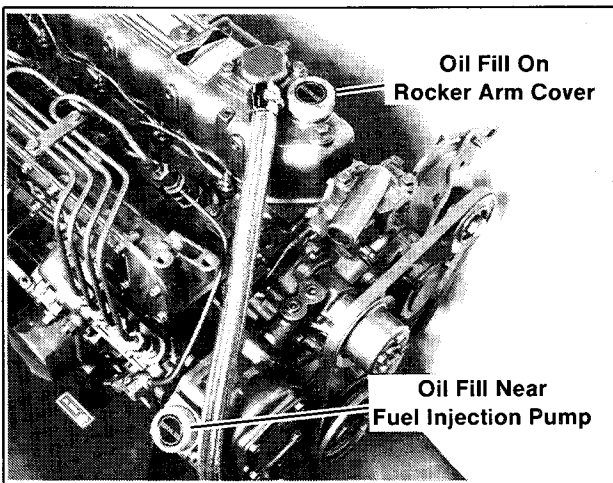

Figure 1-5b. Oil Fill Locations
2. Remove oil fill cap. One is located on the rocker arm cover and one is located near the fuel injection pump. See Figure 1-5b.